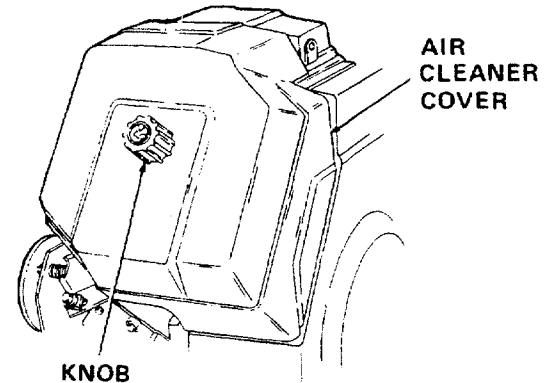

Figure 24. Air Cleaner Housing Components
1. Remove the air cleaner cover retaining knob, air cleaner cover and paper element with foam pre-cleaner. (See Figure 24.)